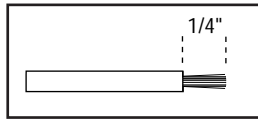

Fig. 2
- Trim blue signal wire (DENSO sensor side) approximately 3" back, then strip 1/4" of insulation from the wire and its corresponding wire (connector side). (See Fig. 2) Trim one black heater wire (DENSO sensor side) approximately 2" back and its corresponding wire (connector side) approximately 1" back. Trim the other black heater wire (sensor side) approximately 1" and its corresponding wire (connector side) back approximately 2". Trim the remaining wire (connector side) back approximately 3" and strip 1/4" of insulation from the wire and the white ground wire (sensor side).